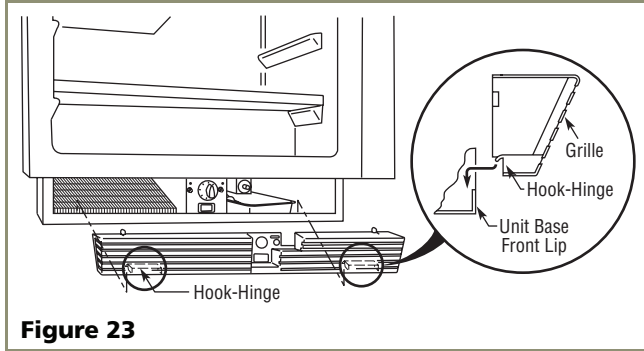

Figure 23
4. Place the two hook-hinges (located on the rear bottom side of the grille) onto the front lip of the unit base. Swing the grille up into position, aligning the grille screw hole on the grille to the grille screw hole on the cabinet. See **Figure 23**.